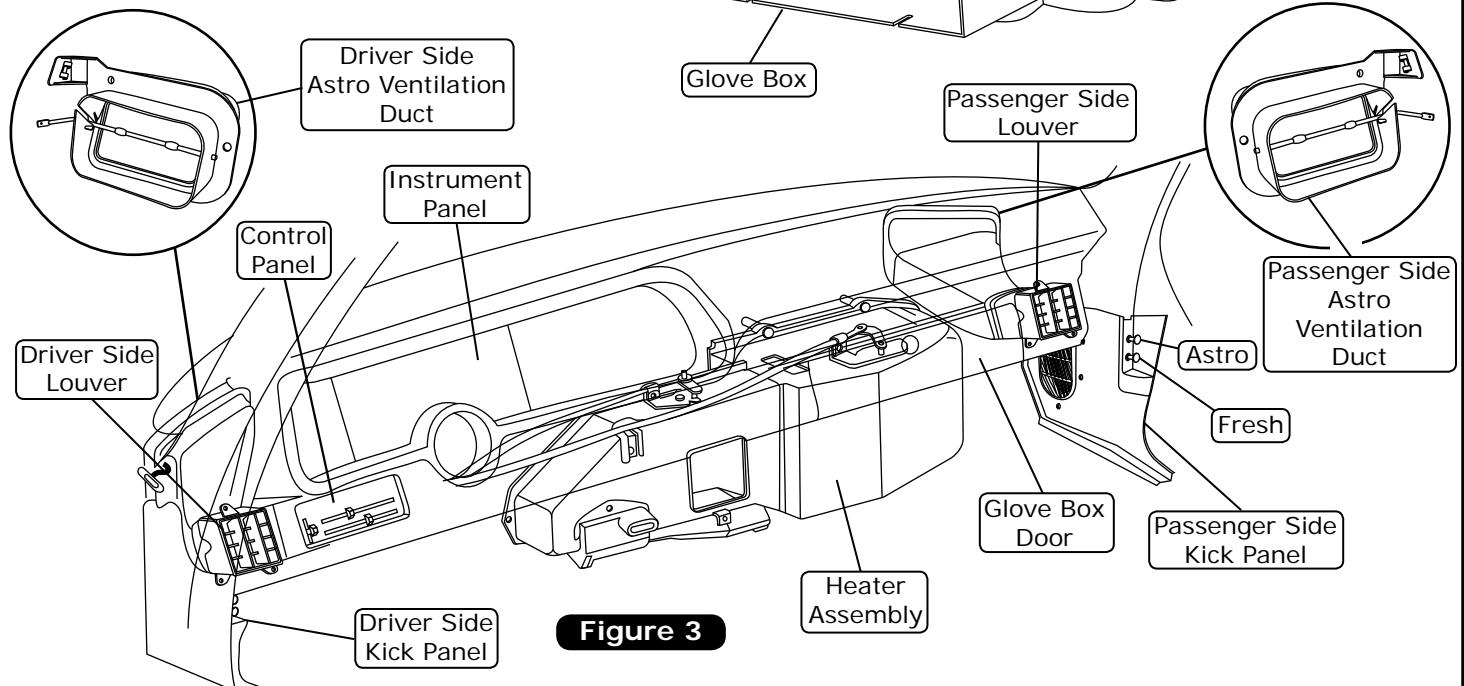

Figure 3
1. Remove the glove box door (See Figure 3, below).
3. Remove the heater assembly and all related ducting (discard, but retain screws) (See Figure 3, below).
4. Remove the driver/passenger side louver outlets (retain). The instrument panel must be removed to get to the left outlet and the control panel (See Figure 3, below).
5. Remove the control panel assembly (discard) (See Figure 3, below). Refer to control panel conversion kit instructions for installation of controls.
6. Remove the passenger side kick panel (retain). Remove the passenger side fresh air cable from the panel (See Figure 3, below). Remove the driver/passenger cable astro-ventilation ducting (discard).